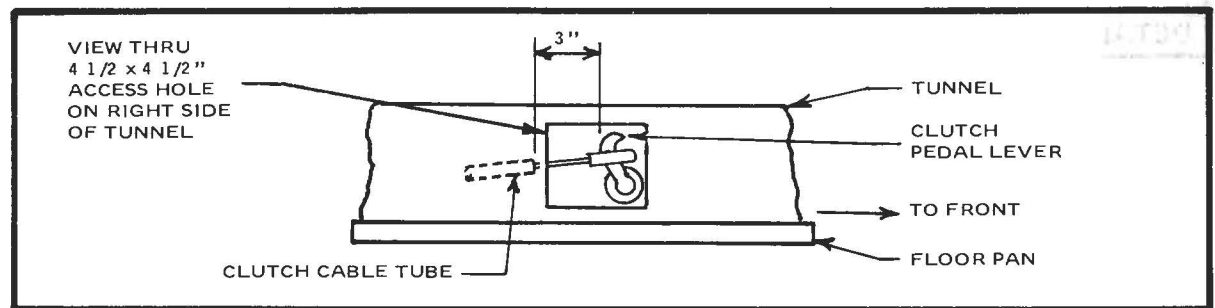

Figure 8
- ☐ Using access hole, cut the clutch cable tube (that is located inside the chassis tunnel) 3 inches from the lever on the clutch pedal. (Refer to Figure 8)